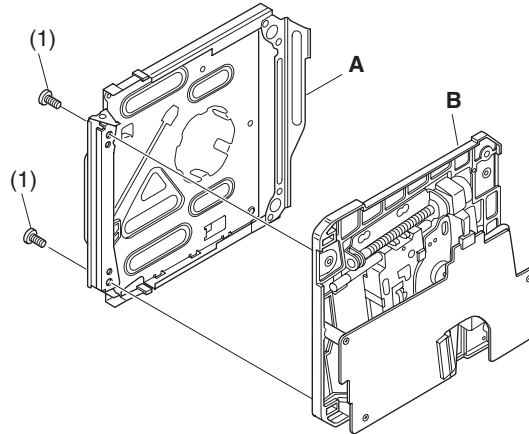

Fig. 4-6
4.6 Loader and Drive mechanism unit (Fig. 4-6)
■ Loader (A), Drive mechanism unit (B)